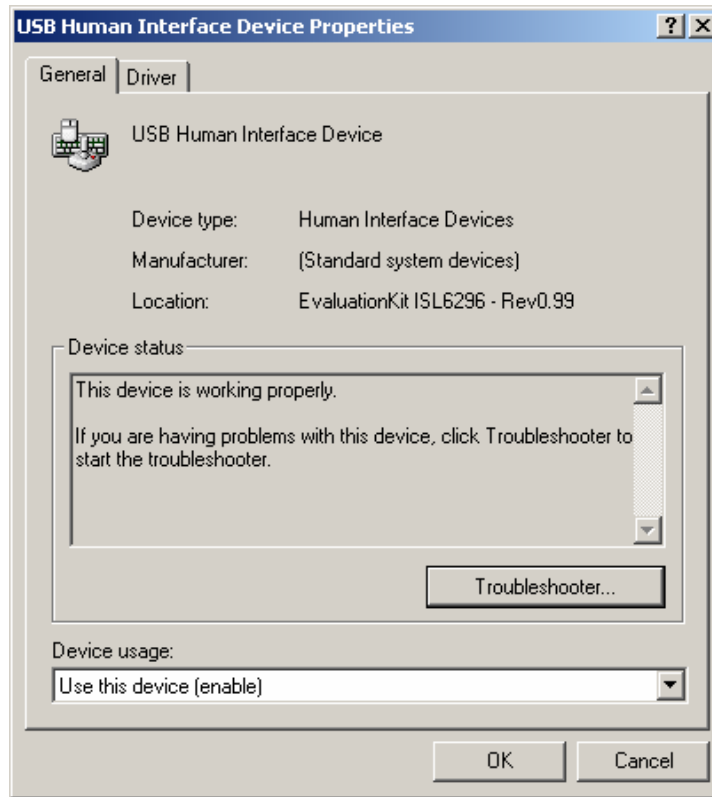

FIGURE 18. SCREEN SHOT OF THE USB HID PROPERTIES WINDOW
3. Double click the USB Human Interface Device, then Figure 18 will show up.
In Figure 18, one can find "Location: EvaluationKit ISL6296 ...". This is the confirmation that the interface board is properly recognized by the operating system.